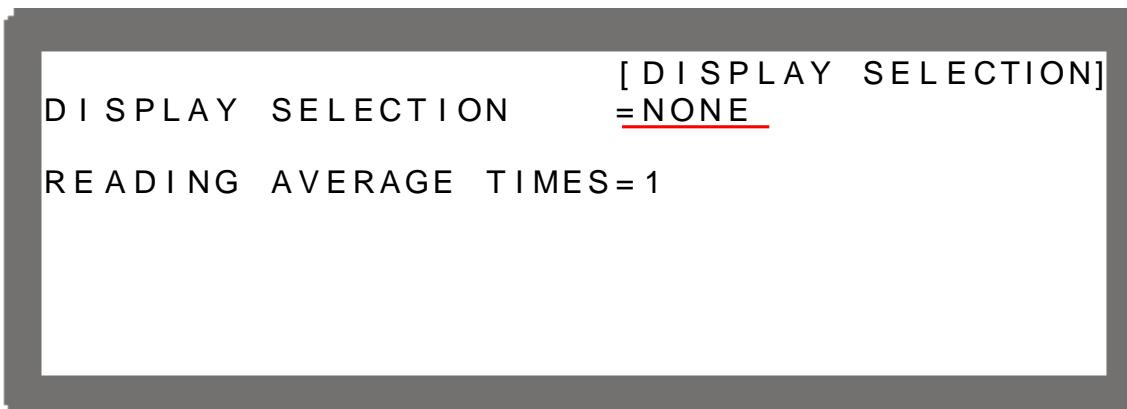

Figure 3-66
2. Press “ ” to enter into DISPLAY SELECTION as Figure 3-66 shows.
1. Use “, “” keys to move the cursor to the column to be set as Figure 3-66 shows.